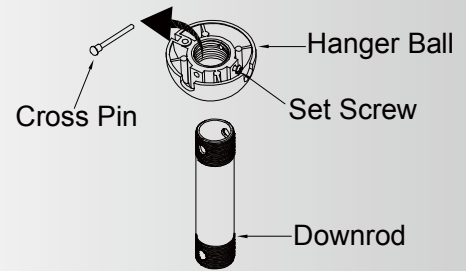

Fig. 5
Step 1. Remove the hanger ball from downrod assembly by loosening set screws, removing the cross pin, and sliding ball off the rod. (Fig. 5)